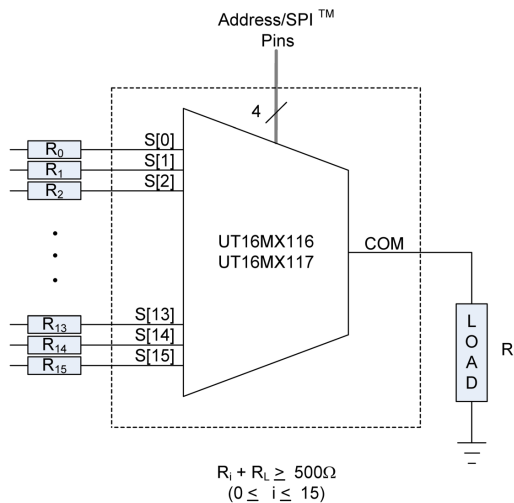

Figure 9. Minimum Total Path Resistance for Continuous DC Operation on Any Single Channel
- 2) Continuous operation with low load resistance is not recommended. (See Figure 9)
- 2) Continuous operation with low load resistance is not recommended. (See Figure 9).